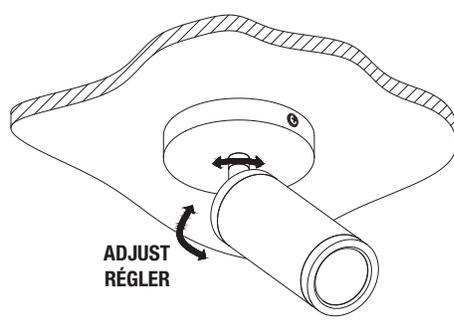

Fig. 1f
8. Adjust the luminaire into desired position as shown in Fig. 1f).
8. Régler le luminaire dans la position désirée (Fig. 1f).